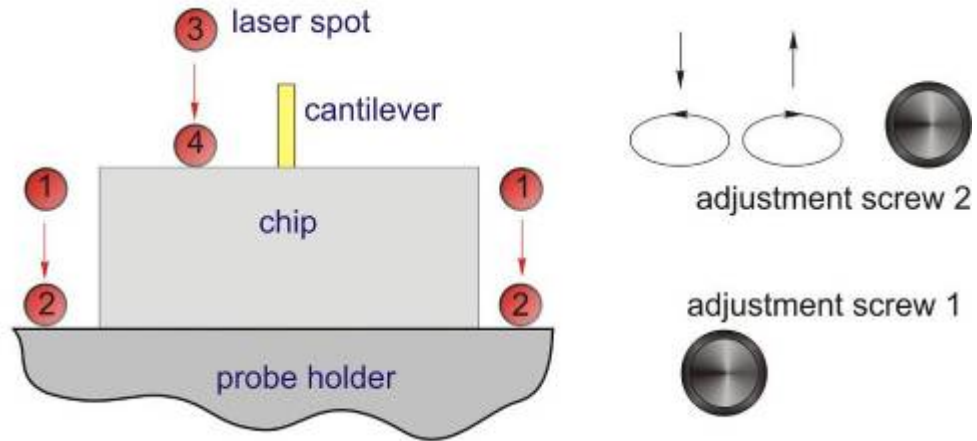

Fig. 2-89
1. If undistorted laser image is seen on the screen (i.e the laser beam passes freely through the measuring head), move the spot towards the holder perpendicular to the chip front edge and position it just near an edge as shown schematically in Fig. 2-89. This laser spot alignment is performed by turning adjustment screw 2 counterclockwise. Then, notice the spot approx. position relative to the cantilever and adjacent to it elements.
- Begin turning adjustment screw 2 counterclockwise. The spot will move towards the chip front edge or the probe holder front edge. This is shown schematically in Fig. 2-89 as a travel from locations 1,3 into locations 2,4;
- Next, fine-position the spot just near an edge (locations 2,4 in Fig. 2-89). To do so, turn slightly adjustment screw 2 clockwise until the image distortion vanishes.